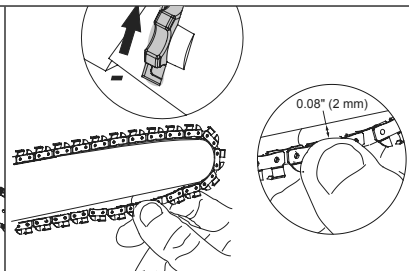

FIG. 15
- During normal saw operation, the temperature of the chain will increase. The drive links of a correctly tensioned warm chain will hang approximately 0.08" (2 mm) out of the bar groove (Fig. 15).